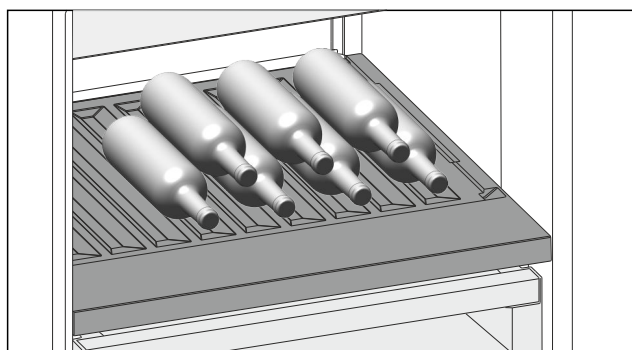

Fig. 87
- Place bottles in the back row with their bases against the back wall. (see Fig. 87)